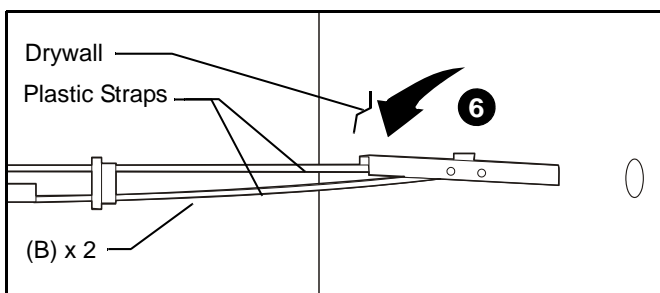

Figure 10
6. Hold metal channel on anchor (B) flat alongside plastic straps and slide channel through hole. (See Figure 10)